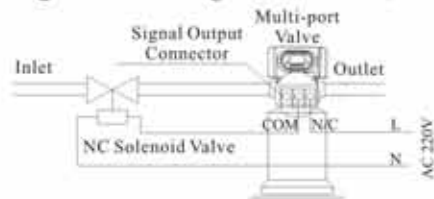
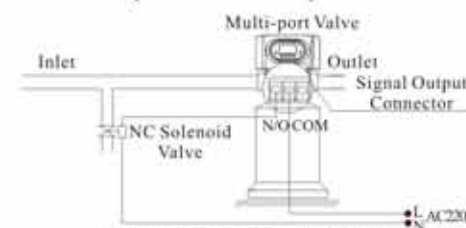

Figure 3-2 Wiring of Solenoid Valve on Inlet
Figure 3-3 Wiring of Pressure Relief Port
② Solenoid valve on inlet( Set b-02)
**Instruction:** When inlet pressure exceeds 0.6MPa, install a solenoid valve on inlet. Control mode is b-02. Pressure relieved when valve switching, the wiring refers to Figure 3-2. As Figure 3-3 shows, it also can use the pressure relief port to work.